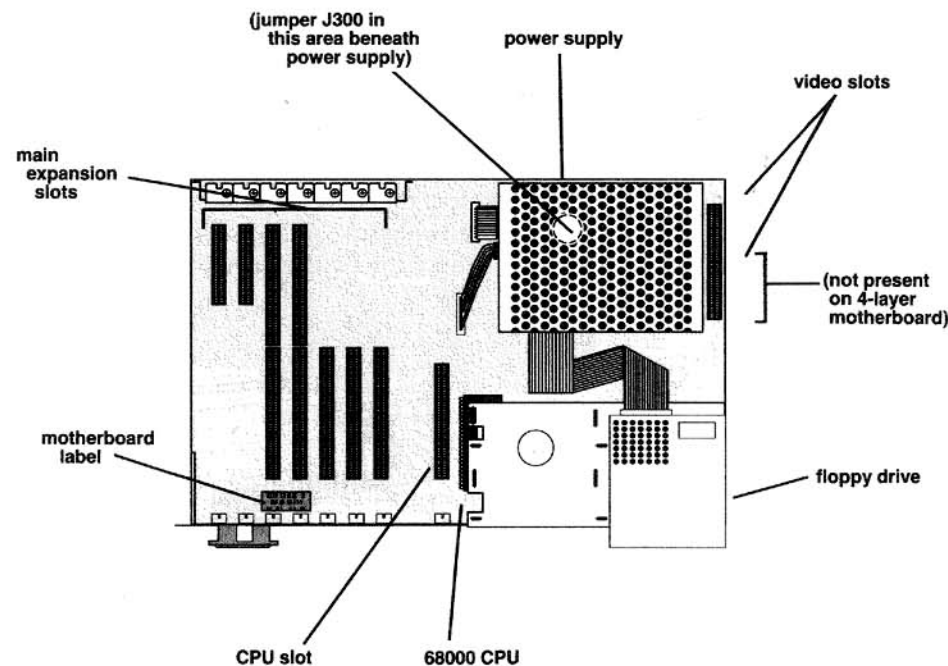

Fig. 2: A2000 — Top View
Before installing the A2320, you must first determine whether your Amiga 2000 has a 2- or 4-layer motherboard. **The A2320 can ONLY be used with the 2-layer motherboard version of the Amiga 2000.** This is determined by looking at the front left-hand corner of the motherboard. You should find, on the left edge of the motherboard, a label which says "AMIGA B2000 - CR" which indicates that your Amiga does indeed have a 2-layer motherboard. (See Fig. 2.)
- 7) To insure that your computer was set properly at the factory, remove the Amiga's cover, as shown in the chapter on installing the A2320, and check to see that the shorting block on jumper J300 on the motherboard is on the default setting. This jumper is located under the power supply (noted in Fig. 2) but you may be able to see the jumper by looking back from the right front corner of the Amiga. The shorting block should be connecting the leftmost and center pins of the 3-pin jumper. This jumper determines the time base used for the 50/60 Hz CIA timer chip. In normal (factory default) position, the 50/60 Hz TICK clock, based on AC line frequency, is used as a time base. In the alternate position, the vertical sync pulse from the video section is used. The A2320 may not operate correctly if the vertical sync pulse is used as the CIA time base, with the jumper in the right-hand position.